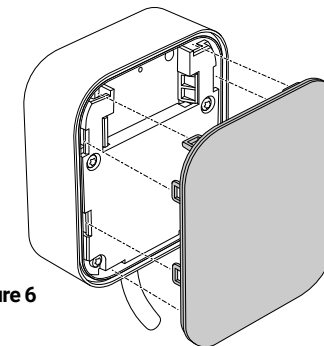

Figure 6
- 7 Refit the waterproof cover - see **figure 6**.